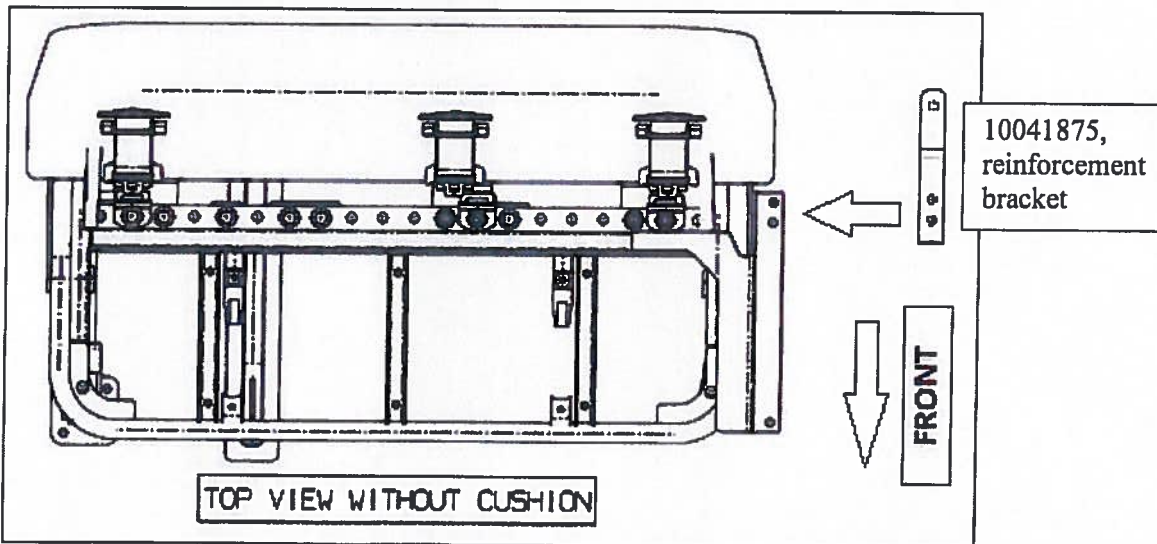
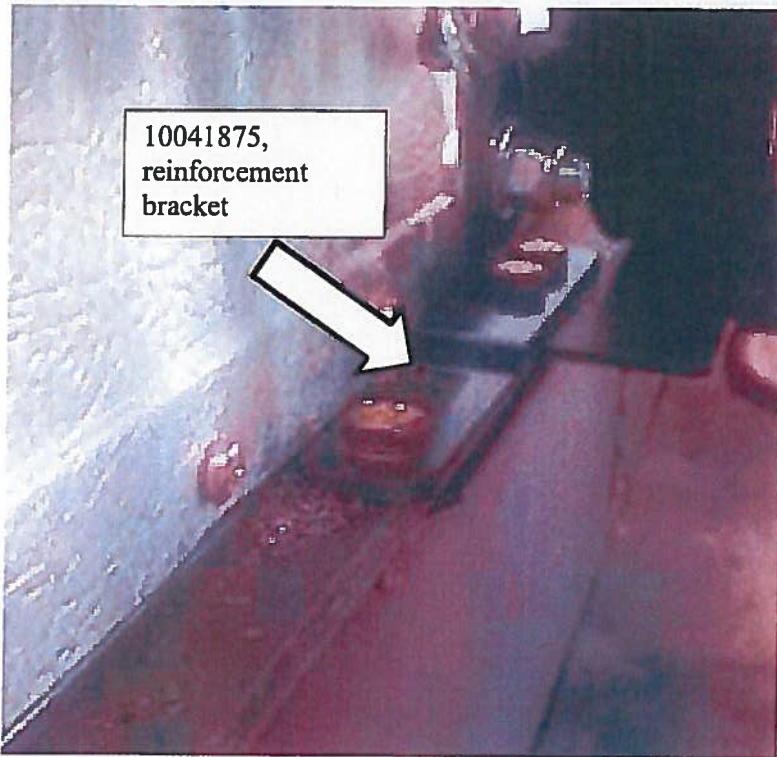

Figure 3
Figure 4
2. Place the new reinforcement bracket (10041875) into position and reinstall the two fasteners. Reference Figure 3 and Figure 4 for bracket location. Tighten fasteners snugly but do not torque.
4. Clean away metal shavings and install new 3/8" capscrew (00803213) and nut (02171809). Reference Figure 4 for an installed reinforcement bracket.
6. Torque two (2) existing 5/16" nut(s) to 12-13 ft. lbs.